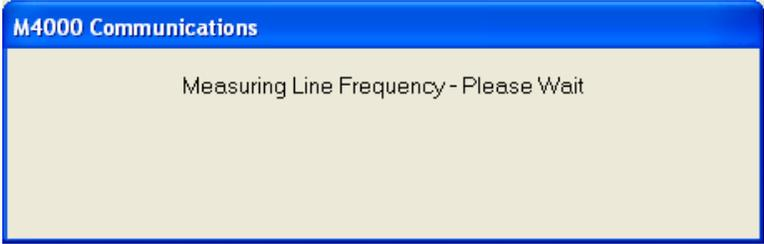

Figure 13. M4000 Communications Dialog Box
3. Click Run The Test. The first time you run a test, a message appears (Figure 13), indicating that the instrument is measuring and recording the line frequency.